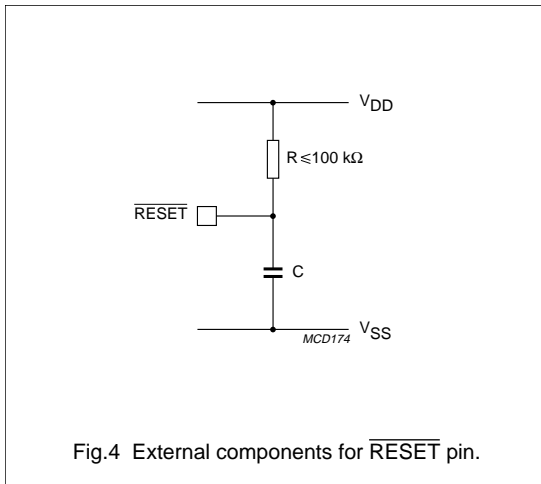

Fig.4 External components for $\overline{\text{RESET}}$ pin.
- If V_{DD} has a slow rise time, such that after the time period ($t_{V_{ref}} + t_d$) has elapsed the supply voltage is still below the minimum operation voltage (V_{min}), external components are required (see Figs 4 and 7). To guarantee a correct reset operation, ensure that the time constant $RC \geq 8 \times t_{V_{DD}}$.